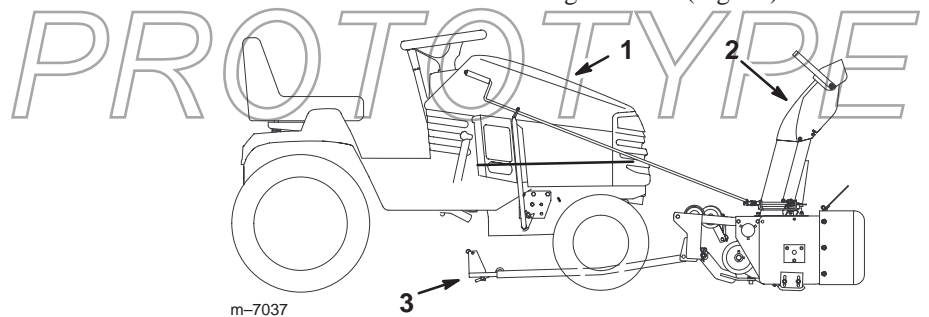

Figure 13
1. Position the snowthrower on a flat surface with the frame and lift tube extending rearward (Fig. 13).
2. Park the tractor behind the snowthrower, with the lift tube between the front wheels (Fig. 13 and 14).